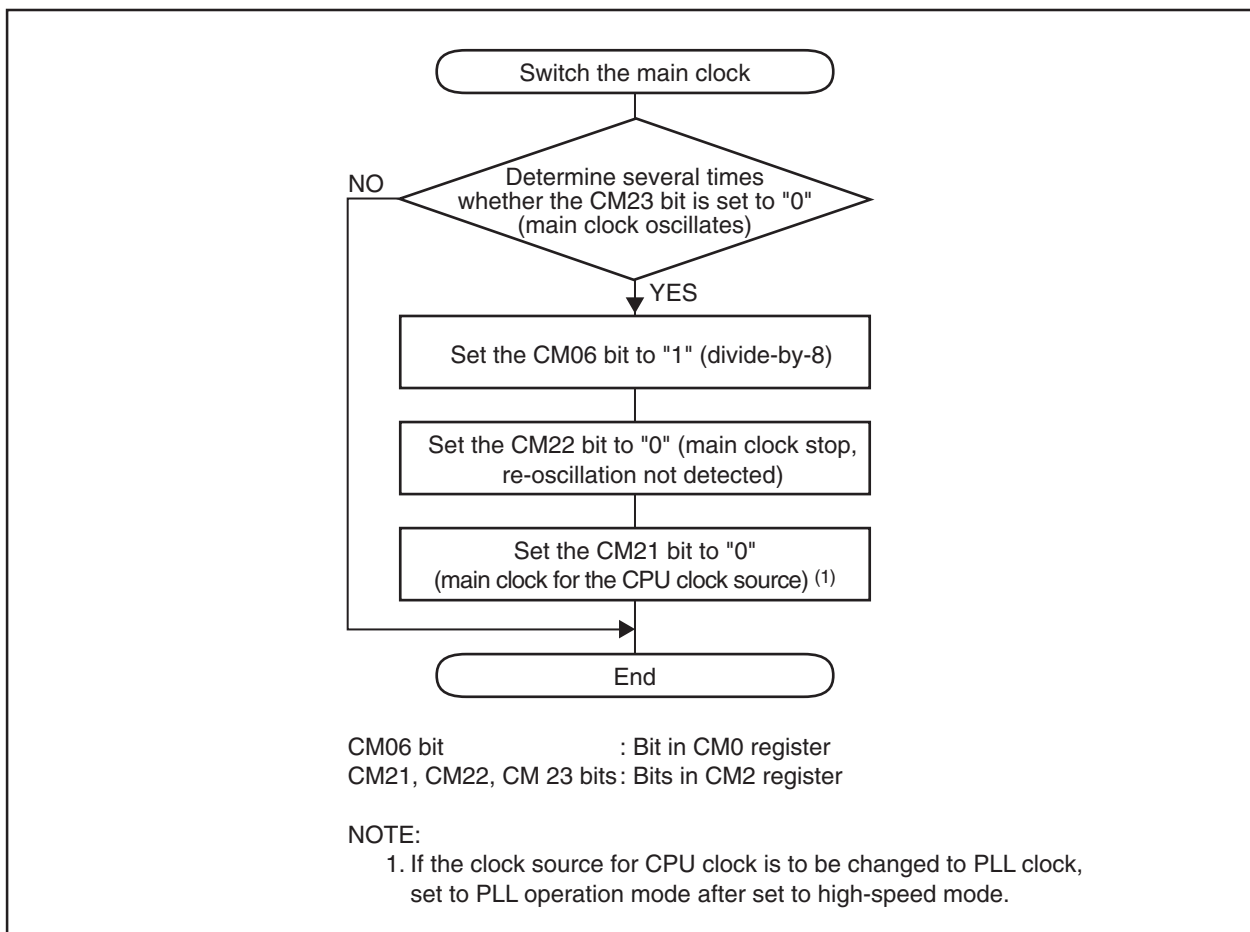

Figure 8.14 Procedure to Switch Clock Source from On-chip Oscillator to Main Clock
- Where the main clock re-oscillated after oscillation stop, the clock source for CPU clock and peripheral function must be switched to the main clock in the program. Figure 8.14 shows the procedure to switch the clock source from the on-chip oscillator to the main clock.